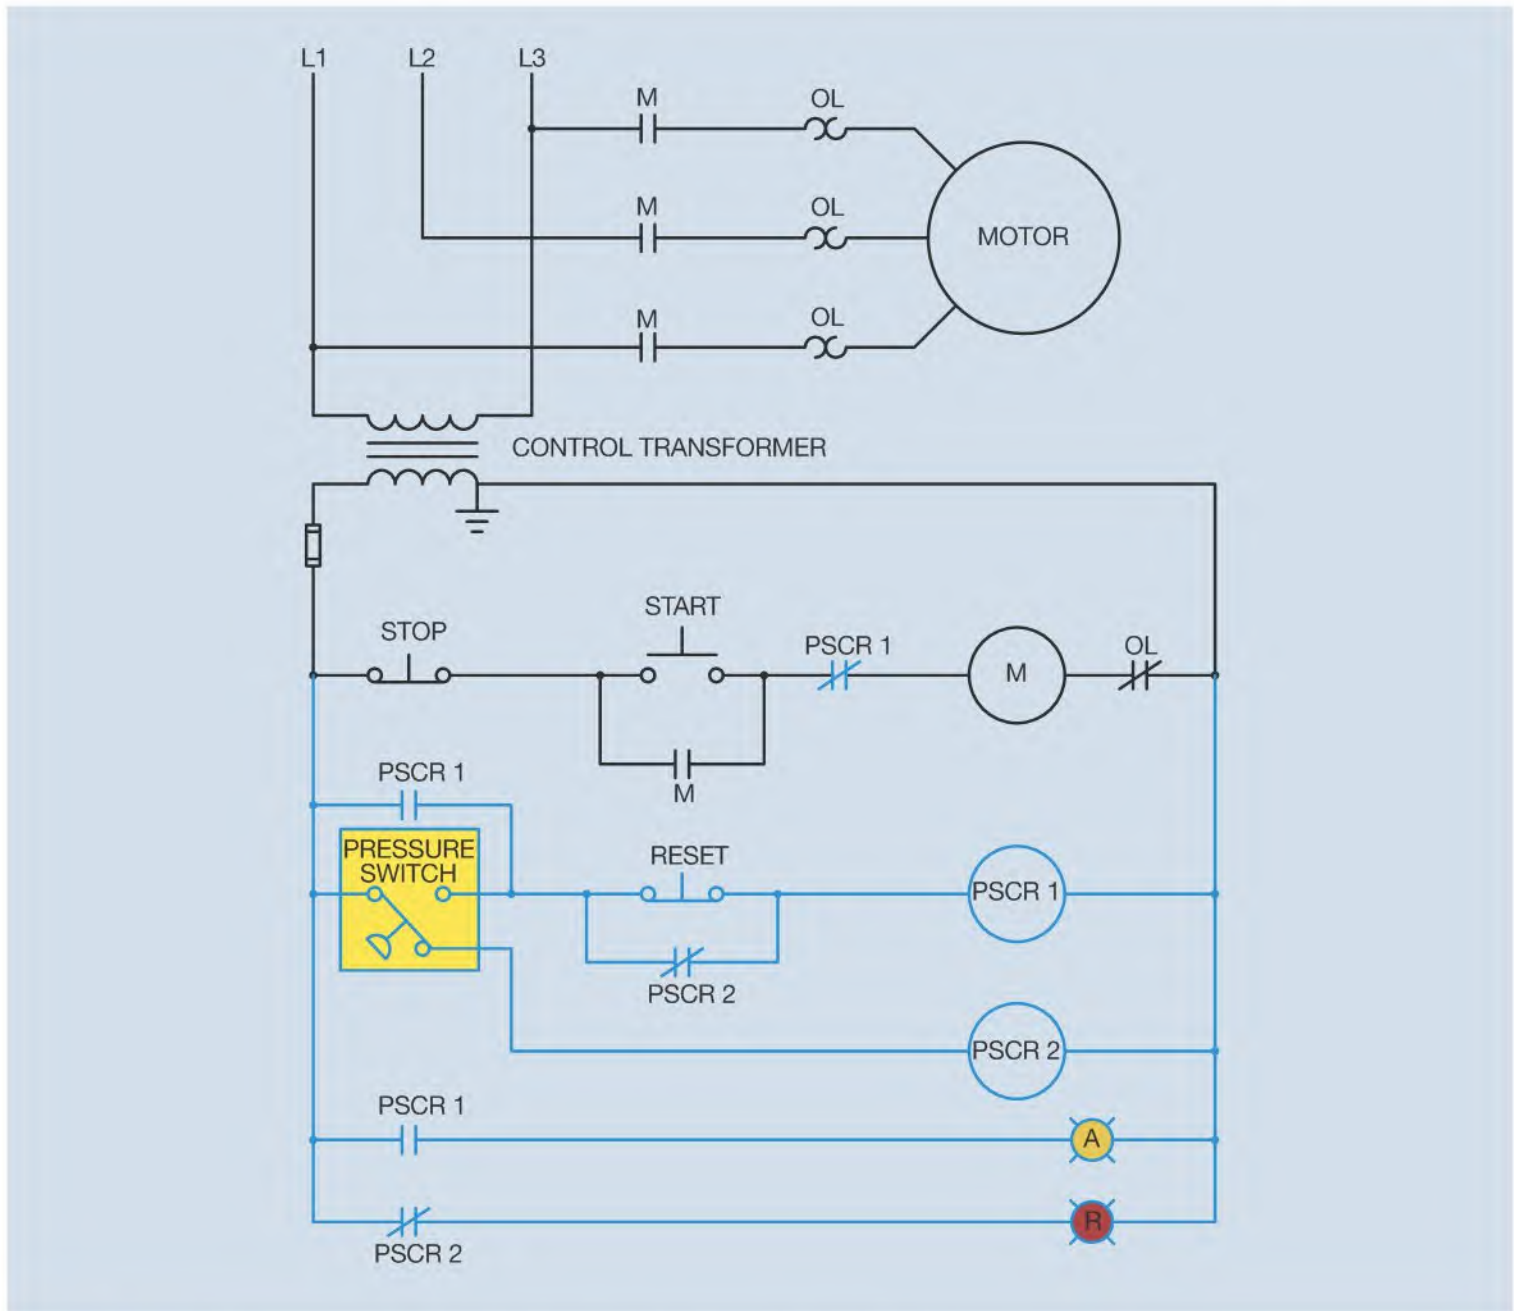

Figure 13-7 High pressure turns off the motor and turns on a warning light.
Pressure switches are used in many common industrial applications. The circuit shown in Figure 13-7 employs a pressure switch to disconnect a motor and turn on two warning lights in the event of a high-pressure condition. The pressure switch contains both normally open and normally closed contacts. The normally closed part of the pressure switch is connected to a control relay labeled PSCR 2 (pressure switch control relay #2), and the normally open part of the switch is connected to a control relay labeled PSCR 1. In order for the control circuit to perform its desired function, the pressure switch must contain five different contacts, three normally closed and two normally open. Because pressure switches do not contain contacts in this arrangement,
6. Refer to the circuit shown in Figure 13-7. If the pressure should become high enough for the pressure switch to close and stop the motor, is it possible to restart the motor before the pressure drops to a safe level?
7. Refer to the circuit shown in Figure 13-7. Assume that the motor is running and an overload occurs and causes the overload contact to open and disconnect coil M to stop the motor. What effect does the opening of the overload contact have on the pressure switch circuit?